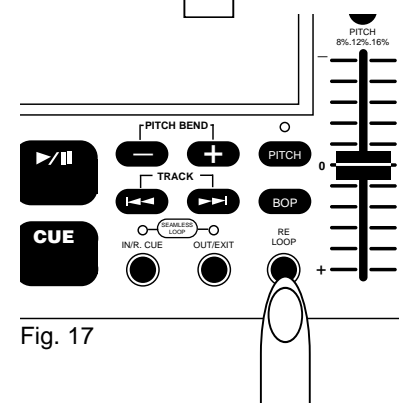

Fig. 17
- To replay the loop, press the **RELOOP BUTTON (20)**. The **IN/R. CUE** and **OUT/EXIT LEDs** will again begin to flash indicating SEAMLESS LOOP mode has been activated (Fig. 17).
- If a SEAMLESS LOOP has not yet been created, follow instructions above (SEAMLESS LOOP PLAY) to create a SEAMLESS LOOP. If a SEAMLESS LOOP has already been created, press the **RELOOP BUTTON (20)** to reenter the SEAMLESS LOOP mode (Fig. 17).
- Press the **OUT/EXIT BUTTON (18)** to return to normal play from the the